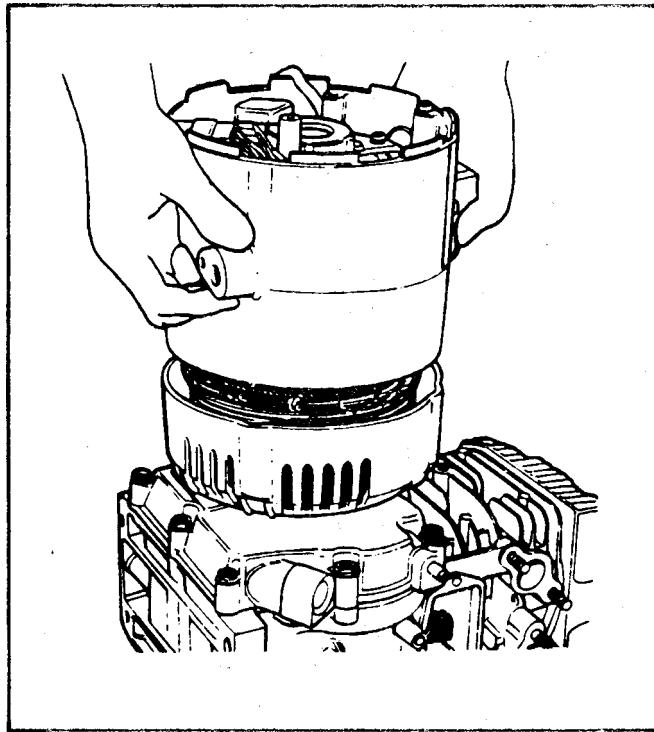

Figure 147
- Align the through bolt holes with the holes in the front generator cover (the cover bolted to the engine) and install the stator. Take extreme care not to damage any of the coils in the stator. See Figure 147.